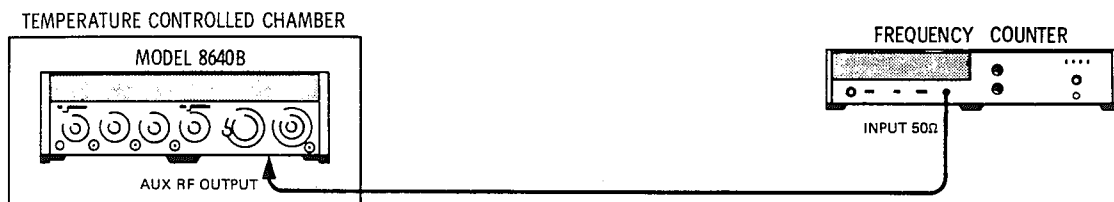

Figure 4-2. Frequency stability vs Temperature Test Setup
1. Connect equipment as shown in Figure 4-2 after setting Signal Generator's controls as follows: